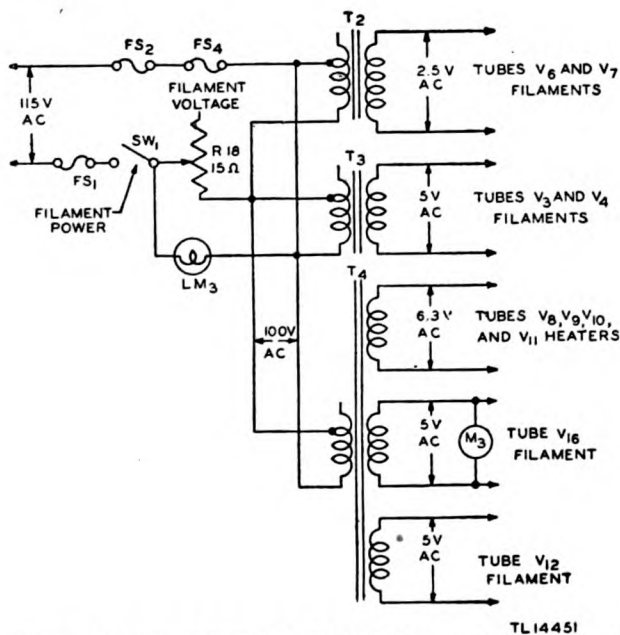

Figure 77. FILAMENT VOLTAGE control—functional diagram.
a. FILAMENT VOLTAGE CONTROL RESISTOR R₁₈ (fig. 77). FILAMENT VOLTAGE control resistor R₁₈ is located on the lower front panel of the transmitter. It controls the filament voltage to tubes V₃, V₄, V₆, V₇, V₁₂, and V₁₆ and the heater voltage